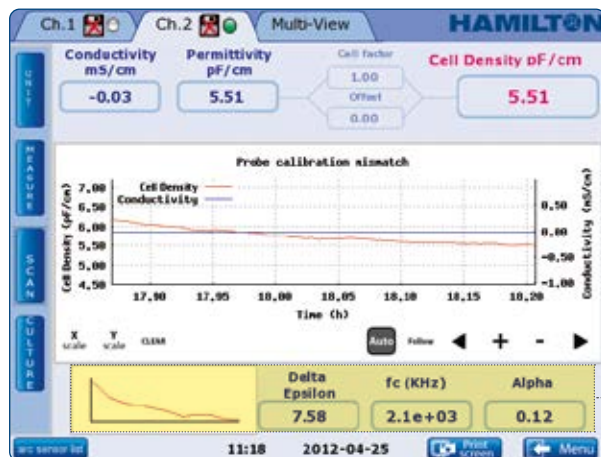

Figure 32: Run Menu with activated Incyte Frequency Scan.
3. The curve of the Frequency Scan is displayed in the Run Menu, below the Main Graph. $\Delta\epsilon_{max}$, f_c and α are calculated and shown as well (Figure 32).